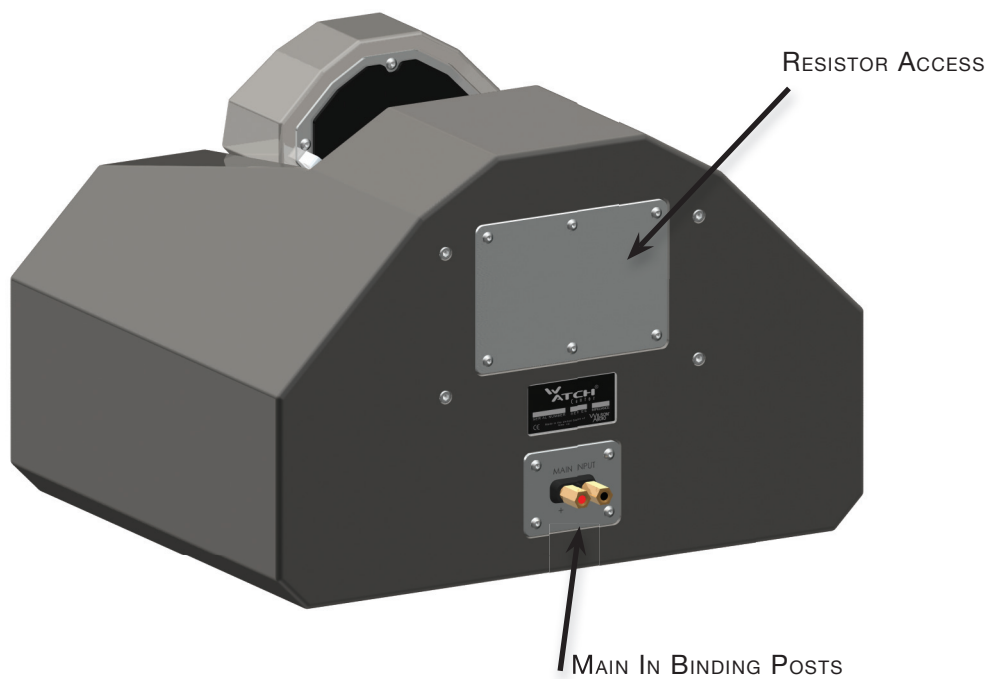

FIGURE 18 - CENTER CHANNEL CABLE CONNECTION
3. Connect the negative (normally black) end of the speaker cable to the high current speaker binding post with the engraved "-" above it (see Figure 18).